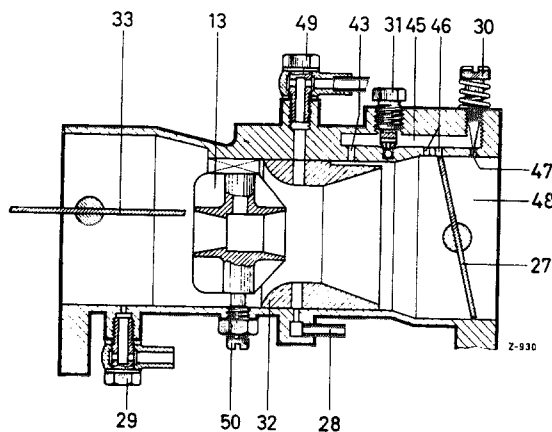

Fig. 07-0/39
The difference between the idle systems in die-cast and sand-cast carburetors is that in the die-cast carburetor the idle air supply is drawn from the mixing chamber in the suction of the carburetor and passes via the recess in the air horn (32) through the idle air bore (43) (replacing the idle air jet) into the idle canal (45), whereas in the sand-cast carburetor the idle air passes into the idle canal through the idle air jet (44) from outside (Figs. 07-0/39 and 07-0/40).